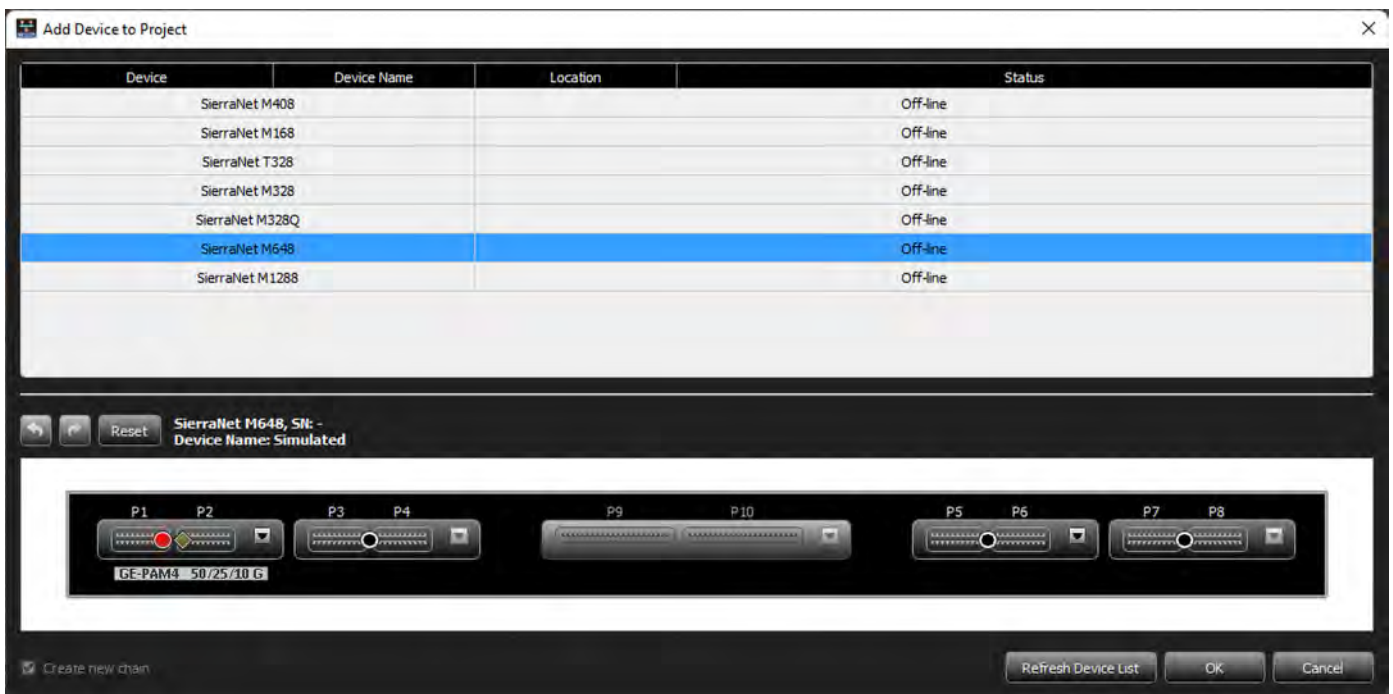

Figure 9.2: Add Device to Project
2. Select **File** → **New Project**. The Add Device to Project dialog appears with the list of devices and available ports for the selected device (Figure 9.2).